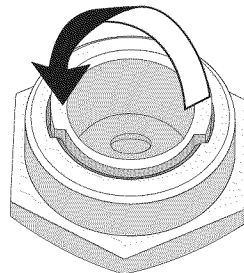
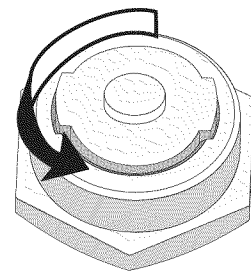

Figure 9
Figure 10
3. Turn the plug over so that the nib on the end of the cap faces upward and re-insert into the cap (Figure 9). Rotate the plug 90° degrees in either direction to lock it into the cap (Figure 10).